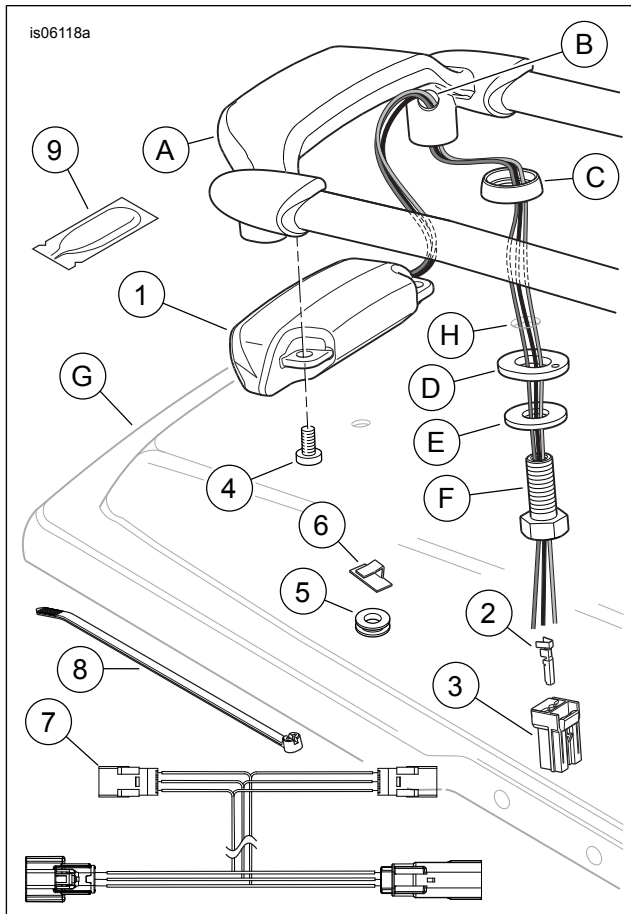

Figure 3. Service Parts, Air Wing Saddlebag Lid Rail Light Kits
See Figure 3 and Table 1.
2. **ALL installations:** See Figure 3. Obtain a saddlebag rail light assembly (1) from the kit.
3. Insert the light wires through the hole (B) in the side of the saddlebag rail (A) mounting post, and out through the bottom of the post.
4. Install the light to the underside of the saddlebag rail rear cross bar with two screws (4) from the kit. Tighten the screws securely.
5. Insert the light wires through the left rear saddlebag rail mounting pad (C) and the left rear hole (H) in the saddlebag lid (G). Assemble the saddlebag rail to the lid per the instructions in the Air Wing Saddlebag Rail Kit, feeding the wires through the left rear saddlebag rail nylon washer (D), plain washer (E) and the hex head hollow screw (F). Tighten the two **Phillips head screws** to 3.1–3.5 N·m (27–31 **in-lbs**). Tighten the hex head **hollow screw** to 3.4–5.6 N·m (30–50 **in-lbs**).
2. See Figure 3. Obtain three socket terminals (2) and one socket housings (3) from the kit. See the service manual for the instructions to crimp the terminals onto the saddlebag rail light wires. Apply dielectric grease to terminals.